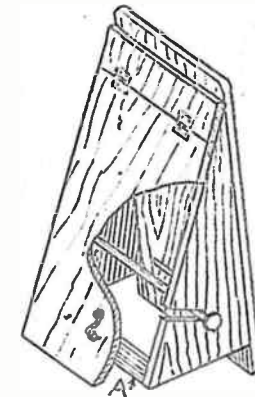

Fig. 2—Showing constructional details
A detail of construction is given in Fig. 2, from which the foregoing items will be made quite clear. At spot (A) glue and nail across the sides a 1/4in. by 1/4in. strip of deal. In the centre of this drive in a small screw eye. Saw out a slot in the free portion of the back to fit over this screw eye, then fit a brass hook to engage the eye, and hold the flap of the back securely in place. This arrangement permits of access to the interior of the article for replenishing the paper supply, when such becomes necessary.